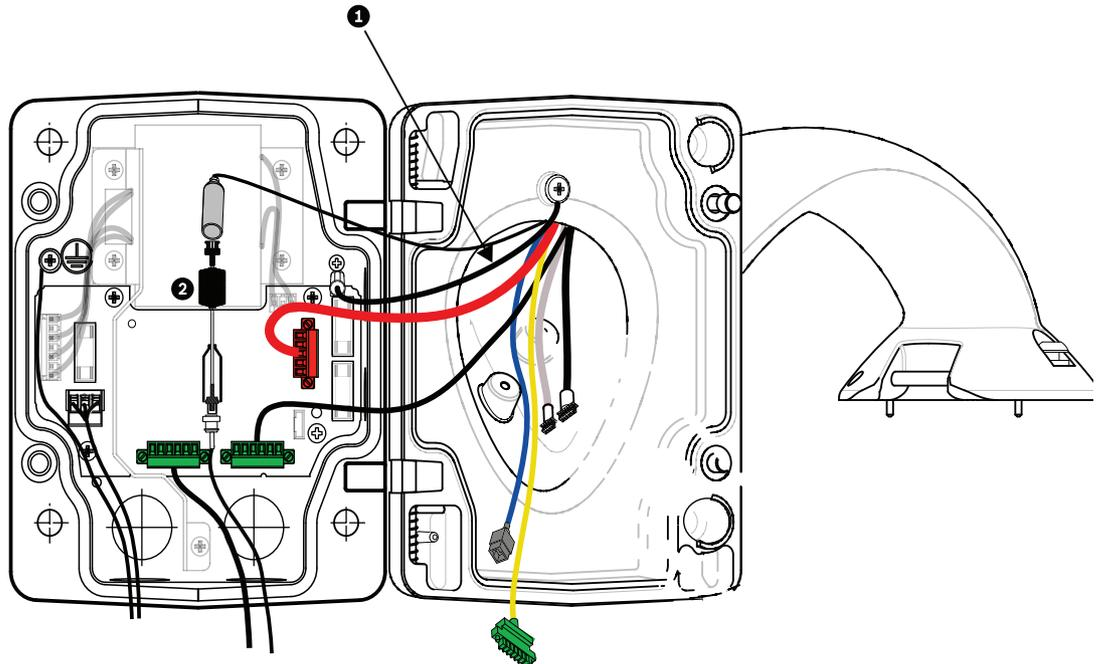

Figure 2.12 600 Series AutoDome: Pendant Arm connections to Power Supply Box
6. **600 Series AutoDome:** Connect the BNC plug (male connector) of the coax cable with ferrite (refer to *Figure 2.12*, item 2) to the BNC jack connector from the Pendant Connector Harness and slide its plastic cover over the connection. *Section 2.4.1 Coaxial Cable Connections, page 12.*
12. After making the harness connections to the Power Supply Box, rotate the Pendant Arm to close and seal the Power Supply Box and tighten the two (2) captive screws to 10-12 N-m (90-105 in.-lbs).